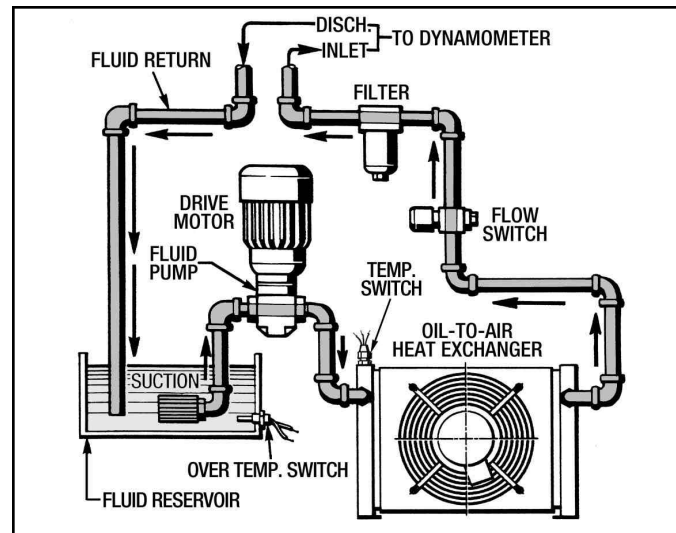

Figure 1.5 - Oil to Air Without Kidney Filtration
3. Oil to Air without Kidney Filtration (See *Figure 1.5*)